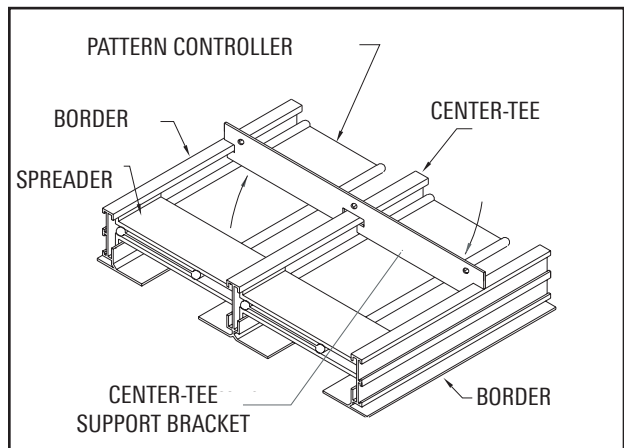

Figure 3. Installation of Center-Tee Support Bracket
- For Diffusers with two slots, a CenterTee Support Bracket is shipped loose for installation. The Center-Tee Support Bracket is installed over the center rail of the FlowBar and then rotated to interlock with the outer FlowBar borders as shown in Figure 3.